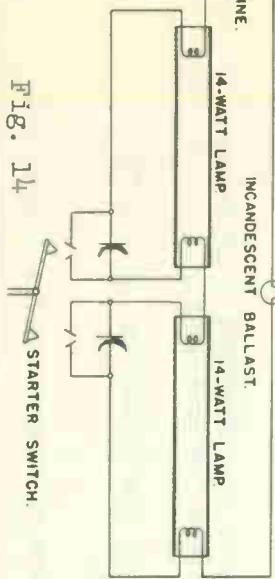

Fig. 14
#### O. Lamps in Series, Fig. 14.
1. Two of the 14 watt fluorescent lamps may be operated in series with each other and with a special incandescent lamp with the circuit shown in Fig. 14. This circuit is used on either 110-125 volt AC or on 110-115 volt DC lines.